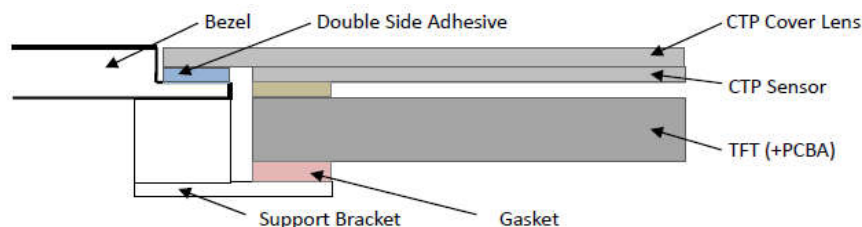

Figure 2
1.2 Surface Mounting (Figure 2)